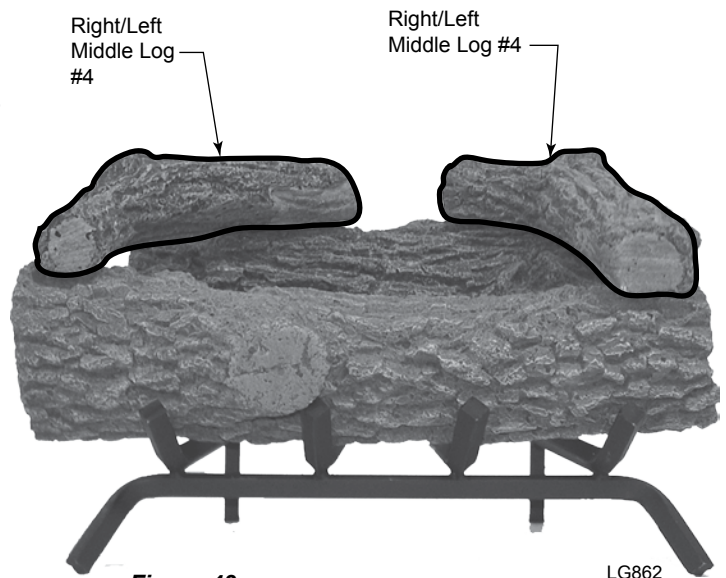

Figure 43 - Place Right/Left Middle Logs
3. Position Right/Left Middle Log #4 on top right of Log #1 and Log #2. *Figure 43*
4. Place Right/Left Middle Log #4 on top left of Log #1 and Log #2. *Figure 43*